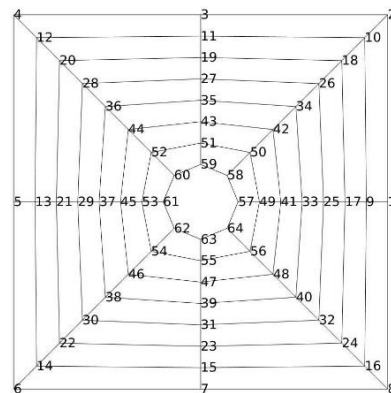

Fig. 2. Mesh with node numbering
Then implement a finite element program in Matlab to approximate the temperature distribution. You should then be able to use exact solution to determine your rate of convergence. The function, **make_mesh.m** is provided to generate a mesh. The **make_mesh** function takes 3 input arguments: nh gives the number of elements along a side (The mesh pictured in Fig 2. was generated with $nh = 1$), side_len gives the length (L) of a side of the plate, and hole_radius gives the radius of the central hole.